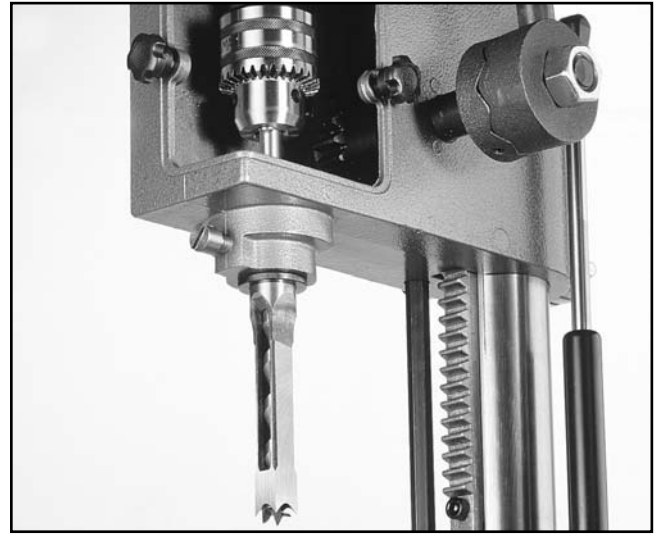

Figure 9.
4. Insert the bit into the chisel, then insert both through the bottom of the bushing. Loosen the brass screw, if necessary, to allow the chisel and bit to pass by. Push the chisel as far as it will go into the head assembly. Tighten the brass screw to hold the chisel in position. **Figure 9.**